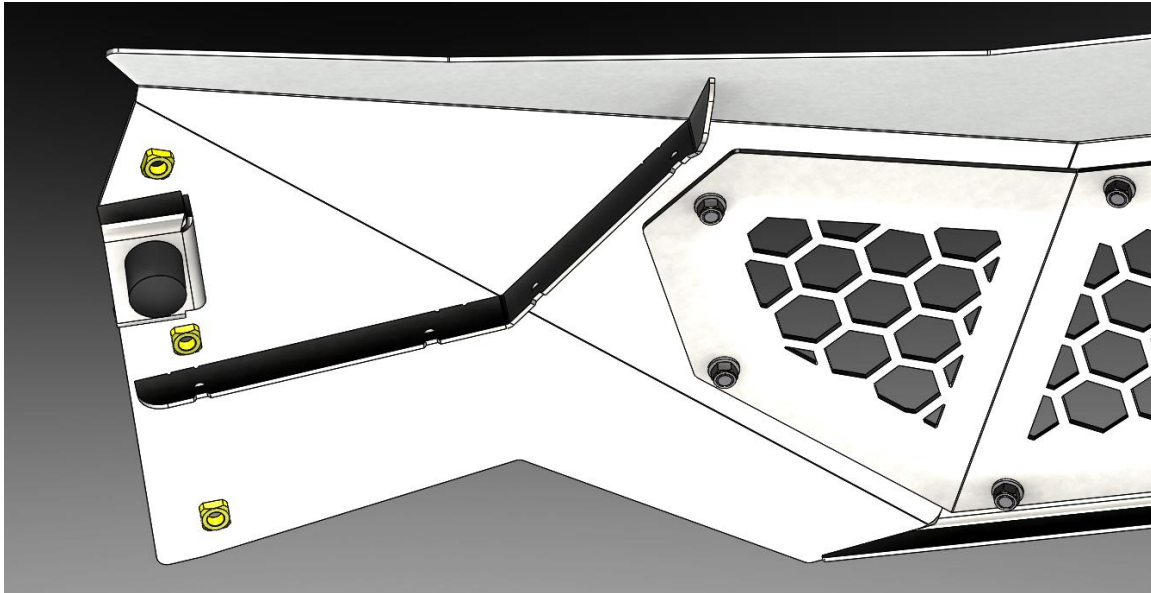

Fig 8
- a. Install and hand tighten the rubber bumpers and $\frac{1}{2}$ " flat washers to the visor as shown in **Fig 8**.